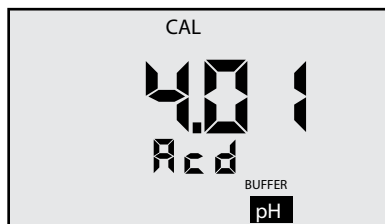

Figure 6
2. At this point the “CAL”, “BUFFER” and “Acd” or “bAS” annunciators will be displayed (see Figures 6 and 7).